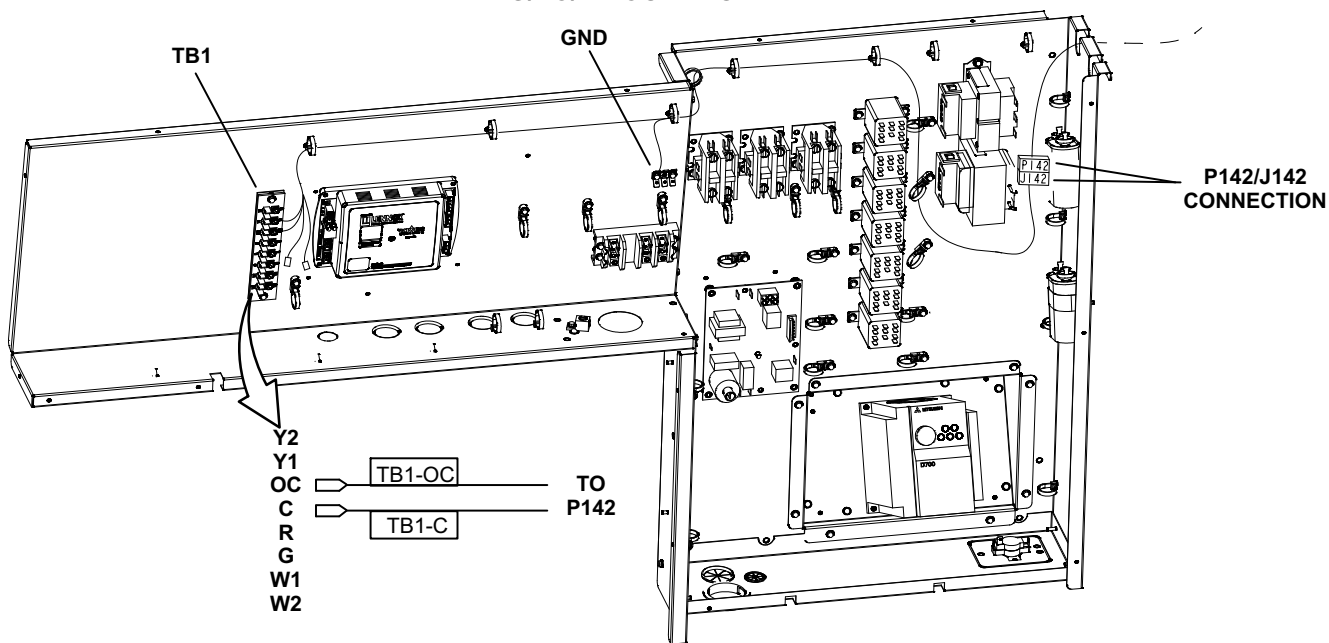

FIGURE 11
- 9- Open compressor access panel on the other side of the unit. Locate the plug (P142) with wires labeled P142-2 & 3 hanging in the upper right area of the control box. See figure 11. Connect the female jack (J142) from the other kit harness to P142. Wires on the other end of the harness are marked TB1-OC and TB1-C. Connect the two wires to the appropriate terminals on TB1. Secure harness to wiring bundle shown in figure 11.